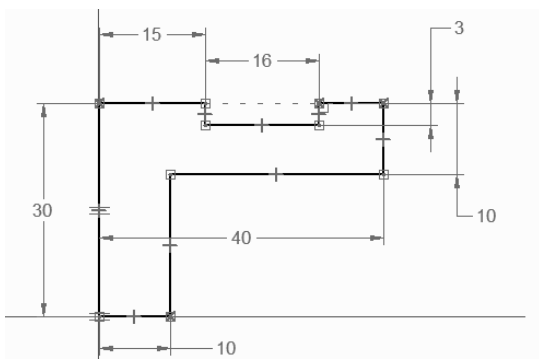

Figure 5-49 Dimensioned profile for the base feature
- Create the base feature on the right plane, refer to Figures 5-49 and 5-50.
4. Add the required relationships and dimensions to the sketch, as shown in Figure 5-49.